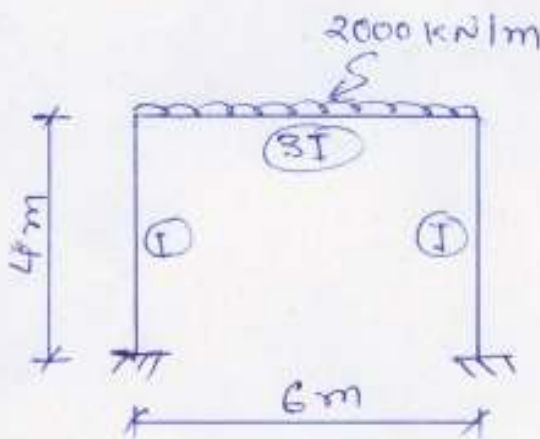

Figure-6
- (b) Analyze the plane frame as shown in **figure-6** using stiffness matrix method. **07**